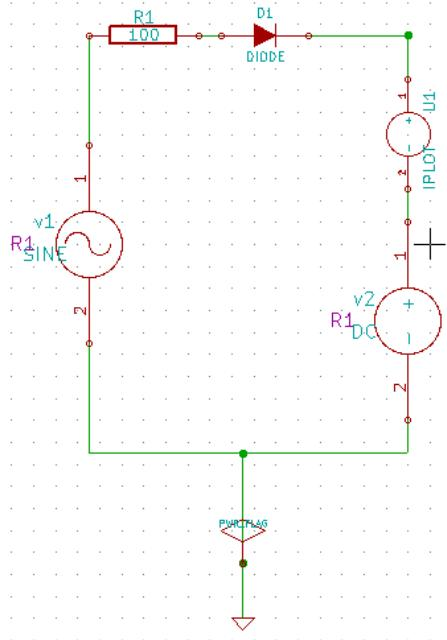
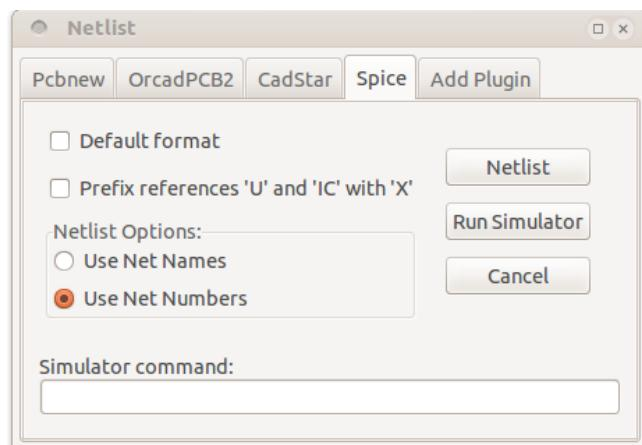

Figure A.1: Schematic of example 2.1
Figure A.2: Netlist generation
1. **Example 2.1:** Figure A.1 shows a circuit for charging a 12-V battery. If v_s is a sinusoid with 24-V peak amplitude, find the fraction of each cycle during which diode conducts. Also, find the peak value of the diode current and the maximum reverse-bias voltage that appears across diode.
Solution: Draw the schematic shown in Figure A.1 using schematic editor. Annotate the schematic using the *Annotate* tool from the top toolbar in Schematic editor. Perform Electric Rules check using the *Perfrom electric rules check* tool from the top toolbar. Ensure that there are no errors in the circuit schematic. Now generate Spice netlist for simulation using the *Generate Netlist* tool from the top toolbar. This is shown in Figure A.2.